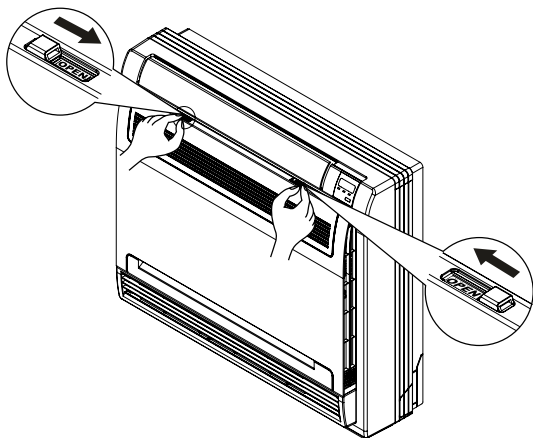

Figure 5.2.1
- 1) Slide the two switches of frontal grille toward the middle, as it is shown in Figure 5.2.1.